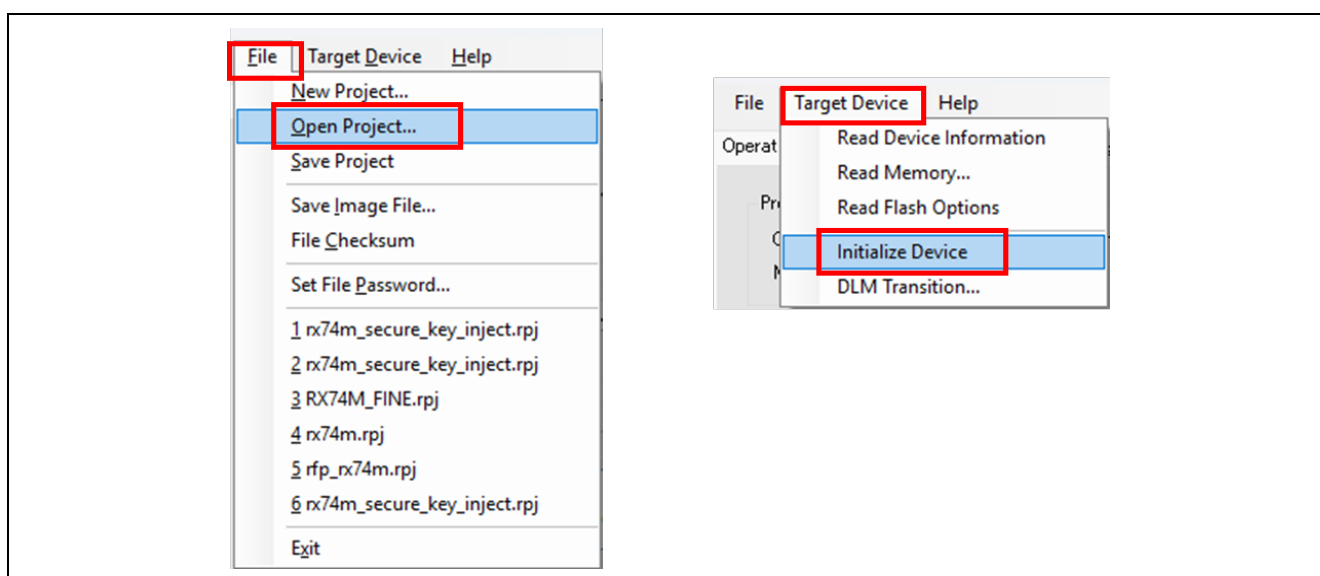

Figure 5-21 Opening the RFP Project and Initializing the Device
3. Select **File** -> **Open Project** as shown in Figure 5-21 and select `rx74m_secure_key_inject.rpj`.
4. Select **Target Device** -> **Initialize Device** as shown in Figure 5-21.